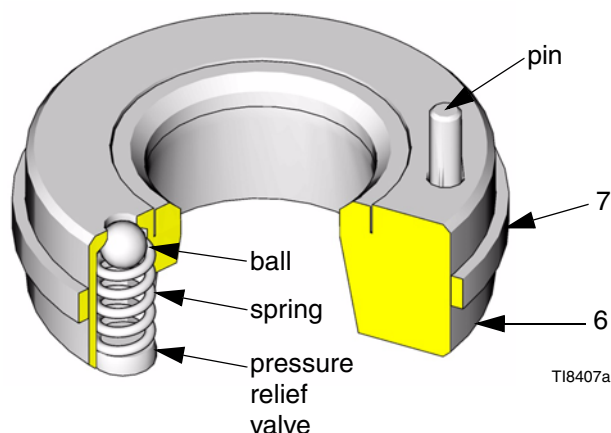

FIG. 4
12. Remove the balls (5), intake seats (6 and 34), and gaskets (7).
13. Inspect the pressure relief valve in the seat (6) to make sure it is not clogged. Press down on the valve's ball to see if the ball and the spring are free to move. See FIG. 4.